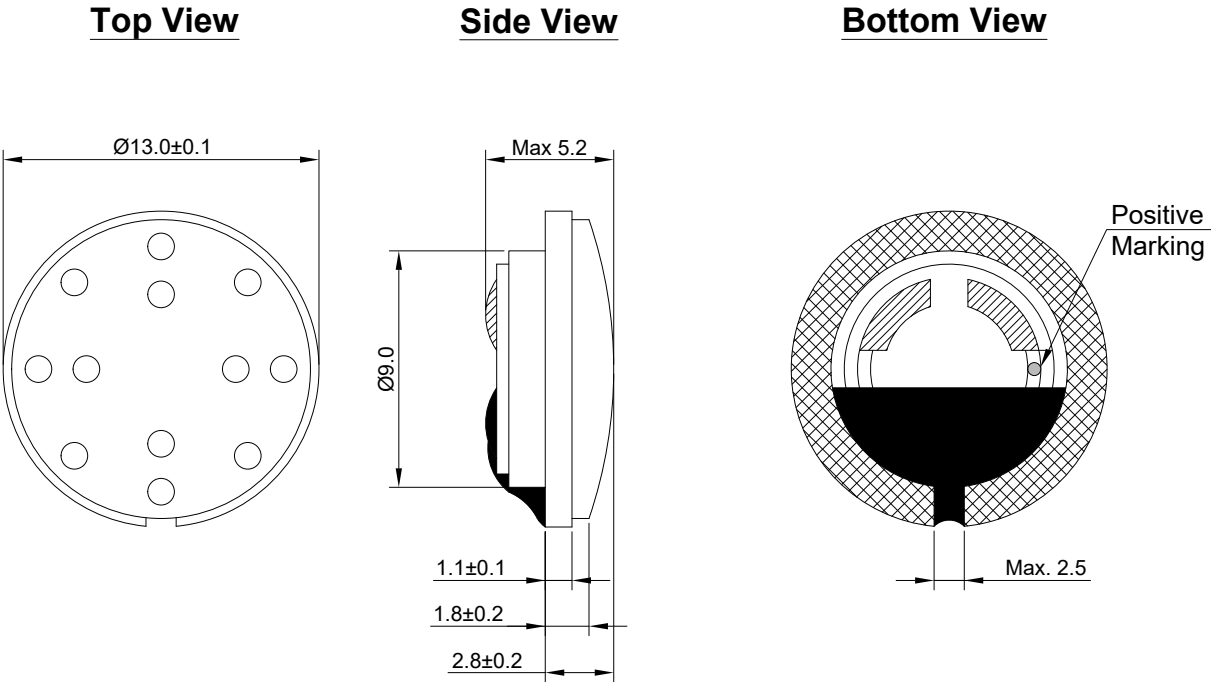

Figure 3. HSR13Z-32 Mechanical Layout
- 4.3.1. Layout and Dimension : See Section 6, Figure 3